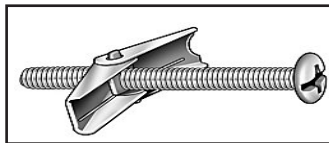

Figure 4.4 3/16 Toggle-Bolt Anchor
- Every mounting point that does not align with a structural framing member, a wall board toggle-bolt anchor must be used. See Figure 4.4.
- Pull back on the bolt and tighten. See Figure 4.4.